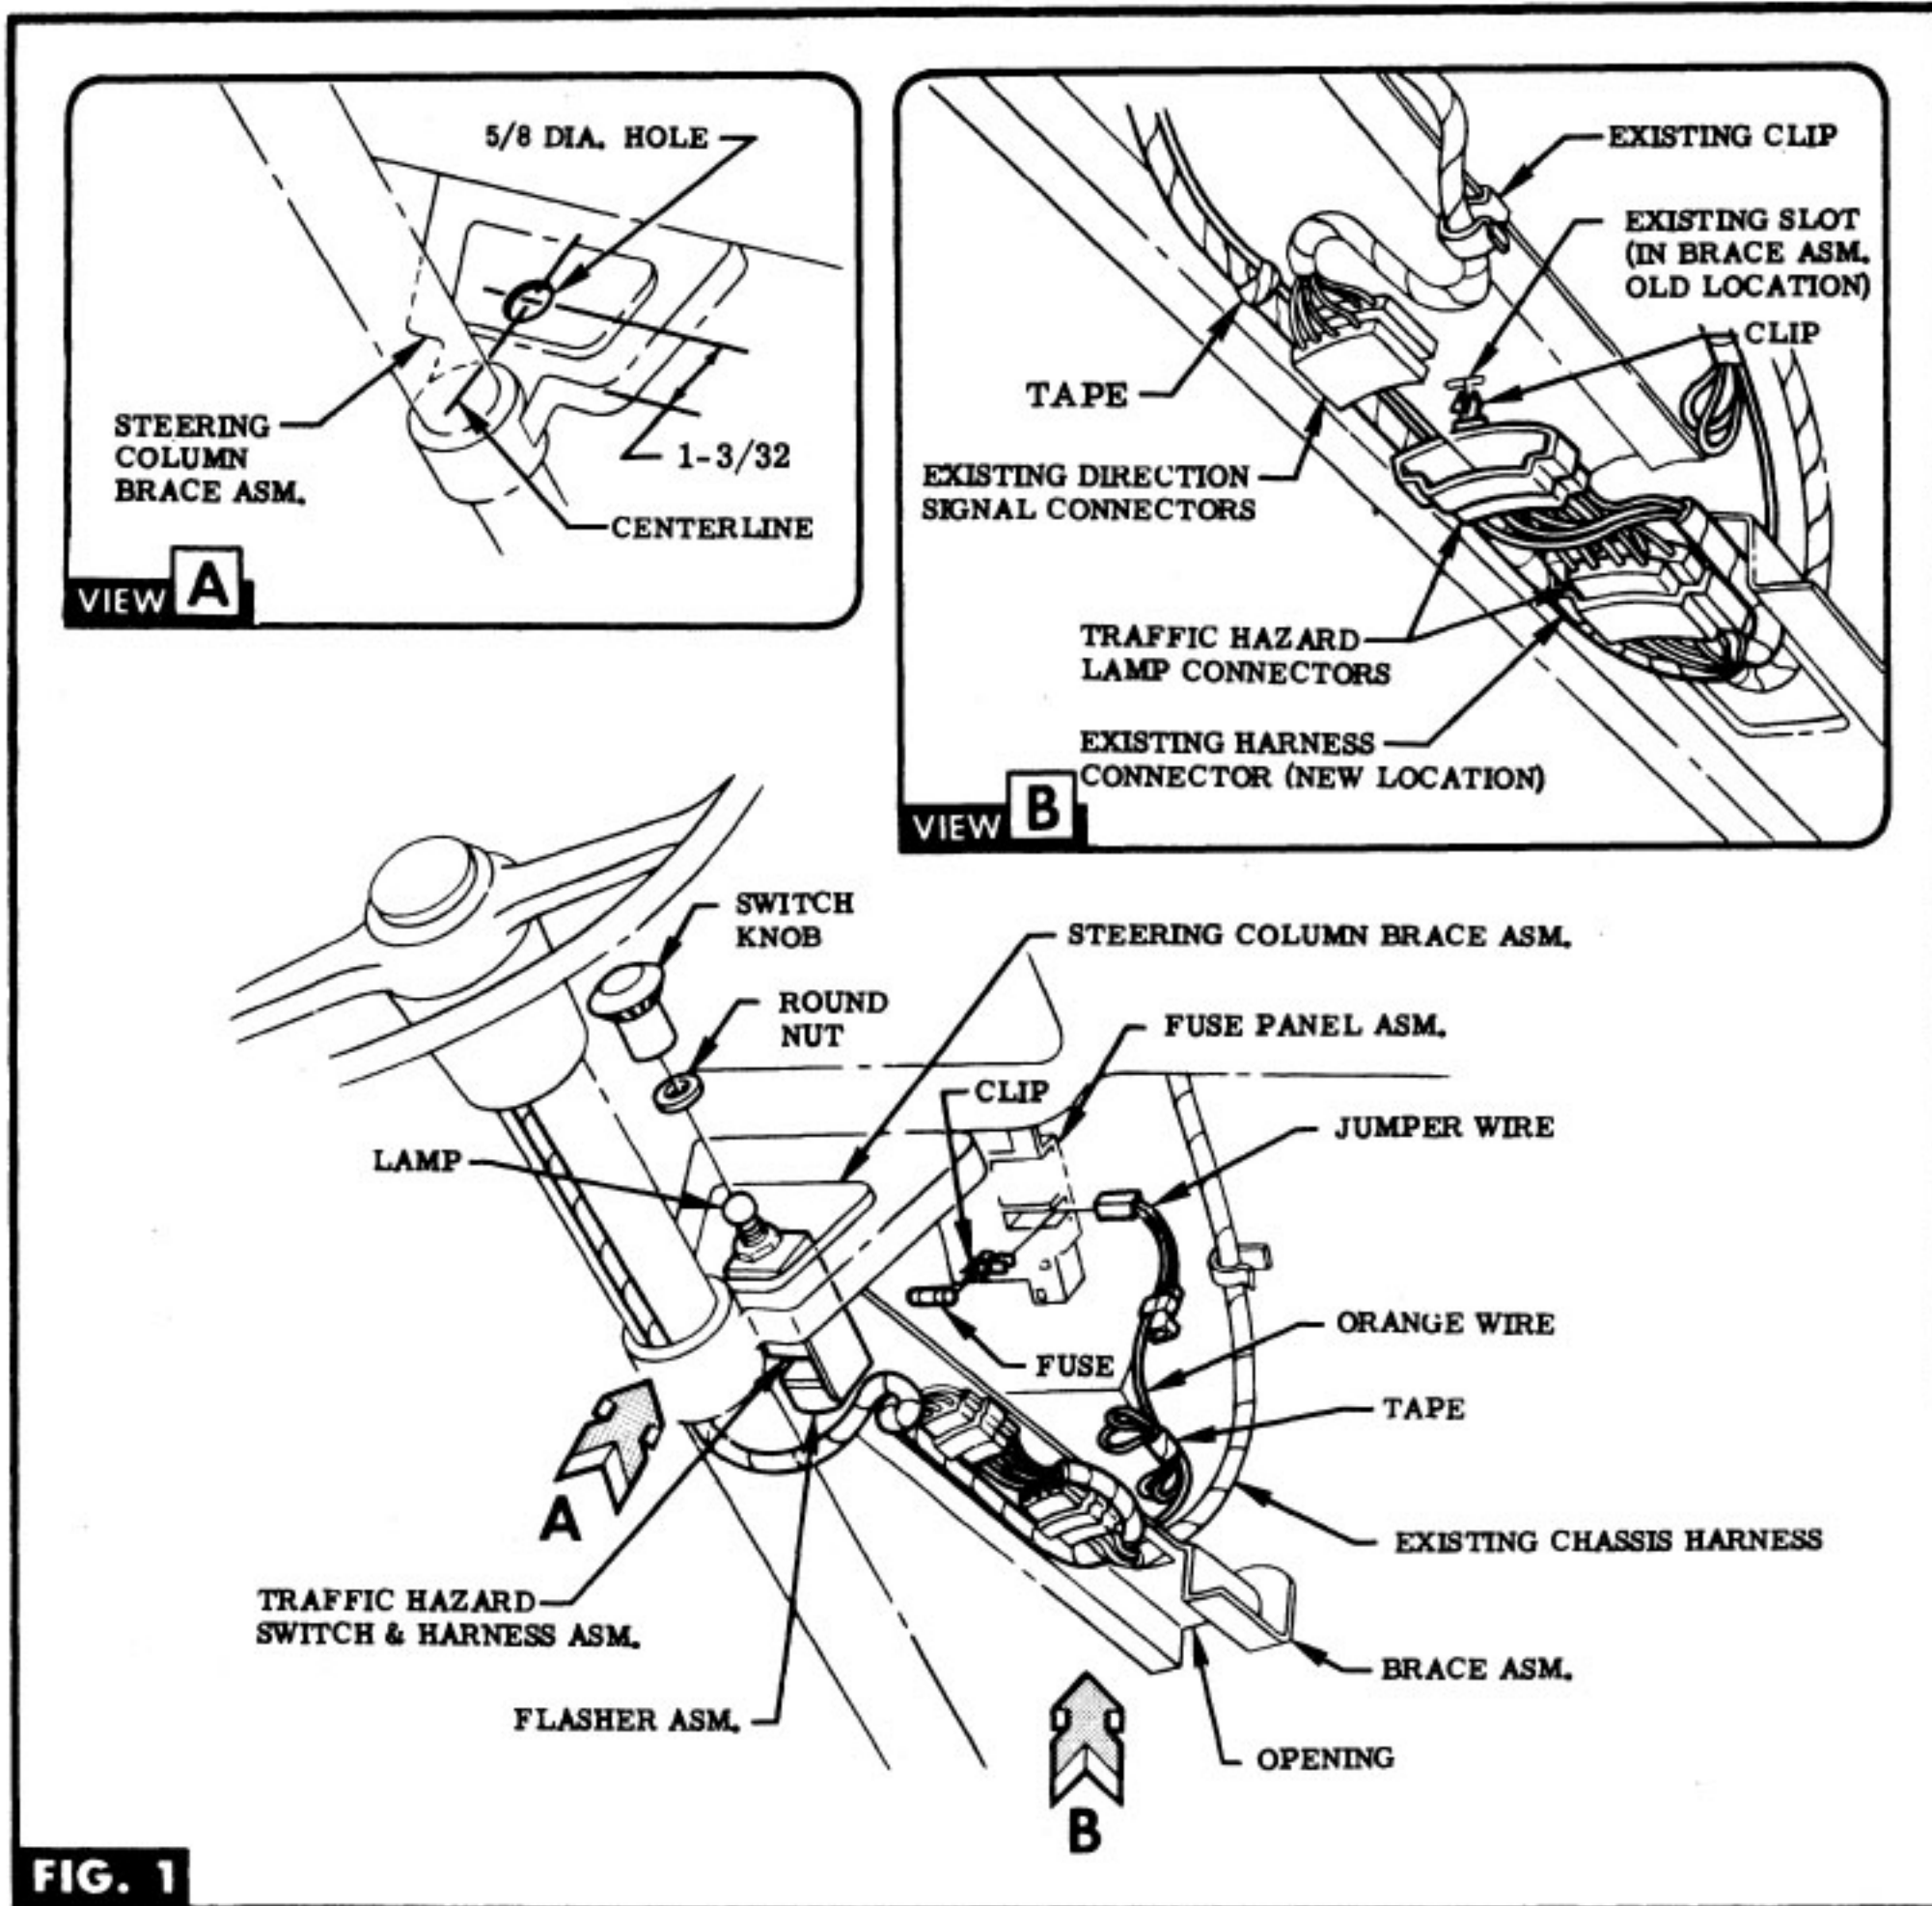

FIG. 1
**STEP 3** INSTALL SWITCH & HARNESS ASM. WITH ROUND NUT. ATTACH LAMP, KNOB & FLASHER ASM. SEE FIG. 1.
ORS TO TRAFFIC HAZARD LAMP CONNECTOR, SNUG TRAFFIC HAZARD LAMP HARNESS & ORANGE WIRE UP INTO CORNER OF BRACE ASM. & SNAP TRAFFIC HAZARD LAMP CONNECTOR INTO PLACE. SEE FIG. 1 & VIEW B.
**STEP 5** ROUTE ORANGE WIRE FROM SWITCH & HARNESS ASM. UNDER BRACE & UP THRU OPENING IN BRACE TO FUSE PANEL. INSERT FUSE CLIP & FUSE INTO RECEPTACLE IN FUSE PANEL MARKED "HTR" OR "B.U. LPS." PLUG ORANGE WIRE CONNECTOR ONTO CLIP. LOOP & TAPE EXCESS WIRE. SEE FIG. 1. **NOTE** If receptacle is occupied, remove & plug into Jumper Wire.